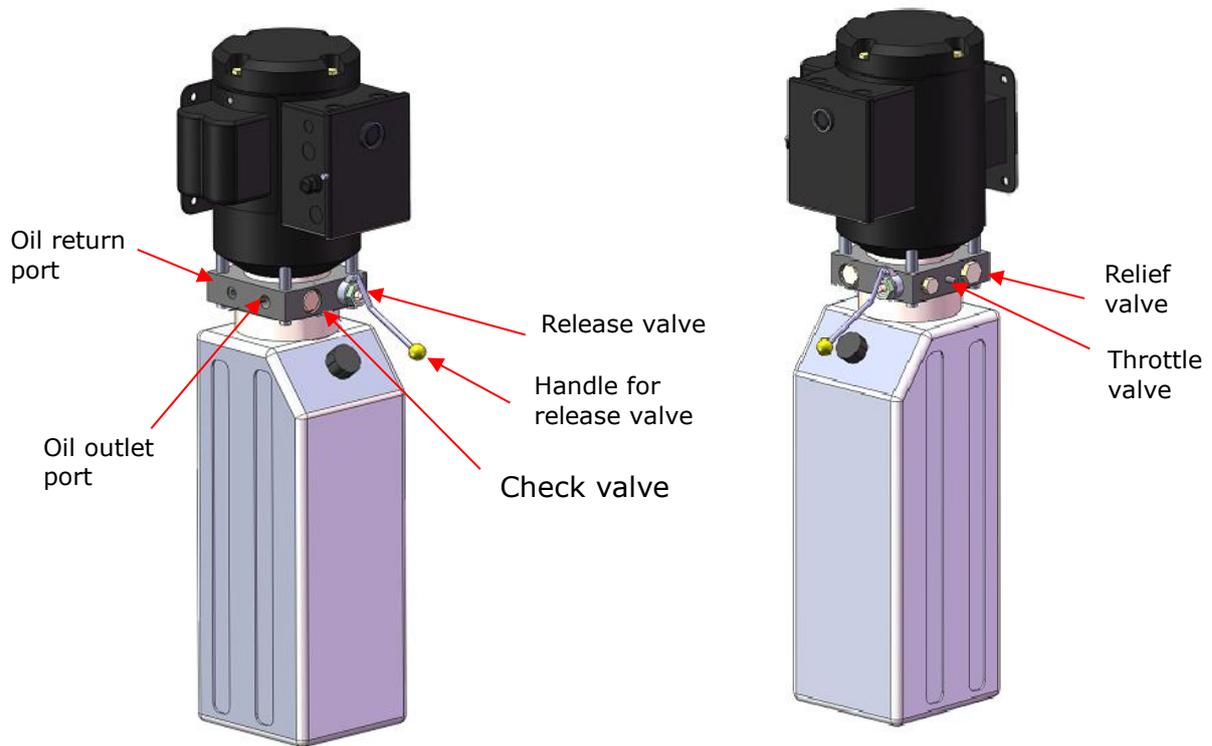

Fig. 31
a. Manual power unit, 220V/60Hz, Single phase (See Fig. 31)